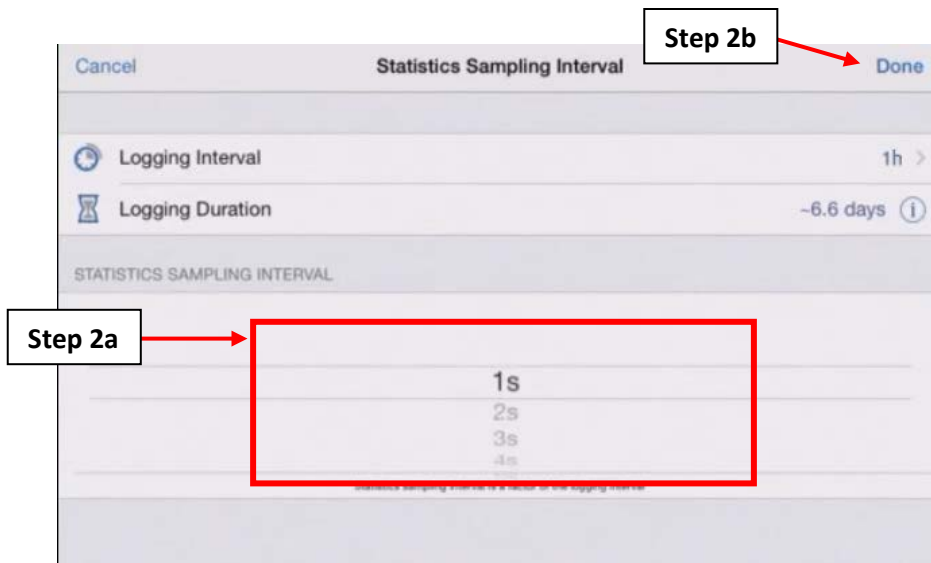

Figure A.6.12: The “Statistics Sampling Interval” screen.
2. Tap the “Statistics Sampling Interval” option which will take you to the “Statistics Sampling Interval” screen as shown on Figure A.6.12.
- a. In the “Statistics Sampling Interval” screen (Figure A.6.12), set the “Statistics Sampling Interval” to 1 second.
- b. Tap “Done” to return to the “Logging Mode” screen (Figure A.6.12).